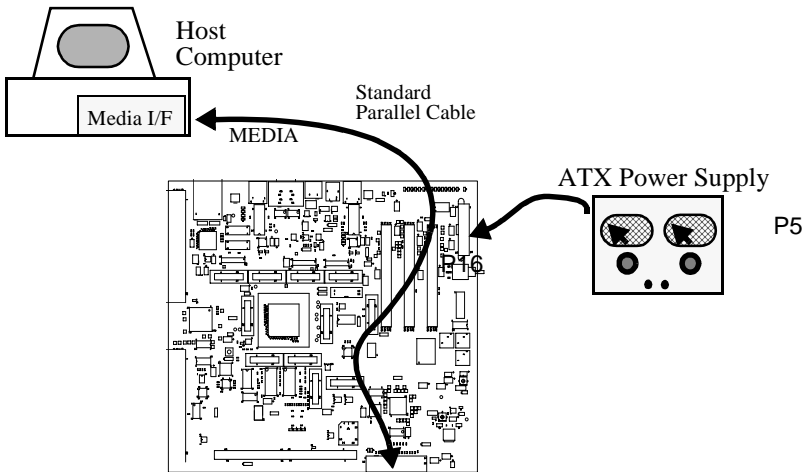

Figure 3-2. Host Controlled Operation Scheme—Parallel Port
- The host is connected to the board directly from the host's parallel port (see Figure 3-2).